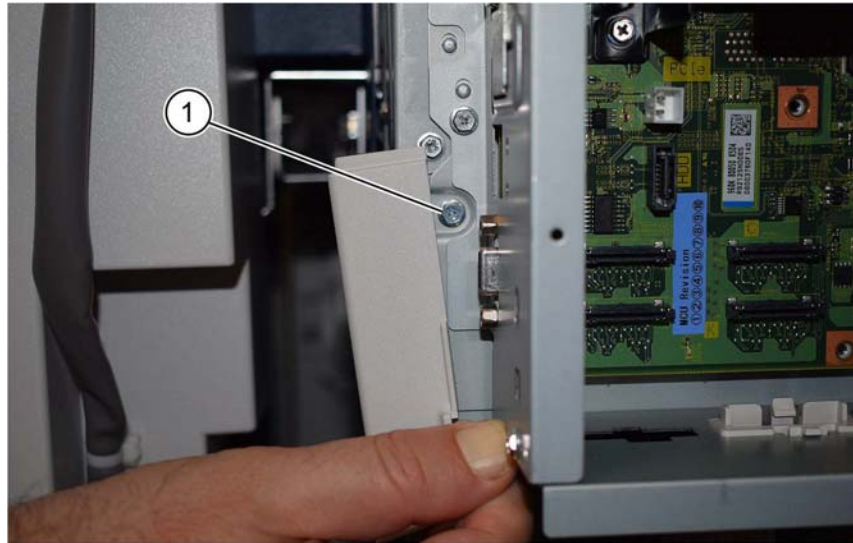

Figure 11 Lower right screw
14. Carefully flex the corner of the right cover away from the machine, then remove the screw (1), Figure 11.